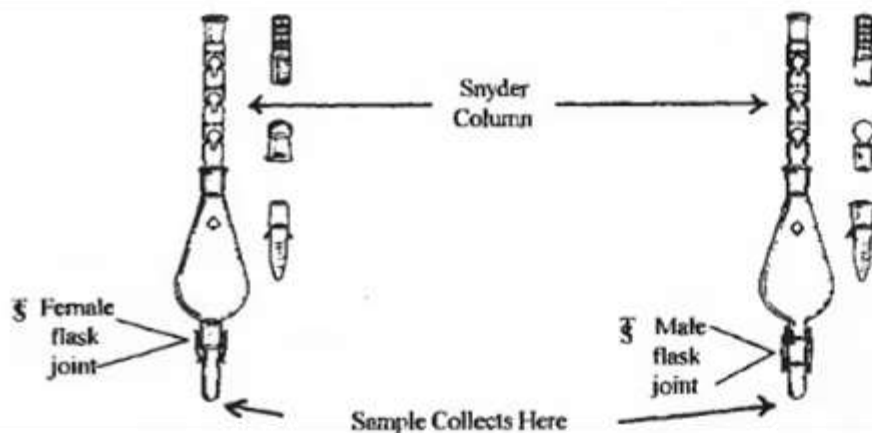

Figure 9-6. A Kuderna-Danish concentrator.
- When trace quantities of materials are extracted, it is necessary to evaporate most of the solvent to concentrate the desired compound for further analysis. This can be difficult to do without losing the desired compound as well. The two most common ways of removing large volumes of solvent without appreciable loss of the desired compound are a Kuderna-Danish concentrator and a rotary evaporator. The former is preferred for low-boiling solvents ($< 100\text{ }^{\circ}\text{C}$, acetonitrile, acetone, methylene chloride), and the latter for higher-boiling solvents. A Kuderna-Danish concentrator is shown in Figure 9-6.